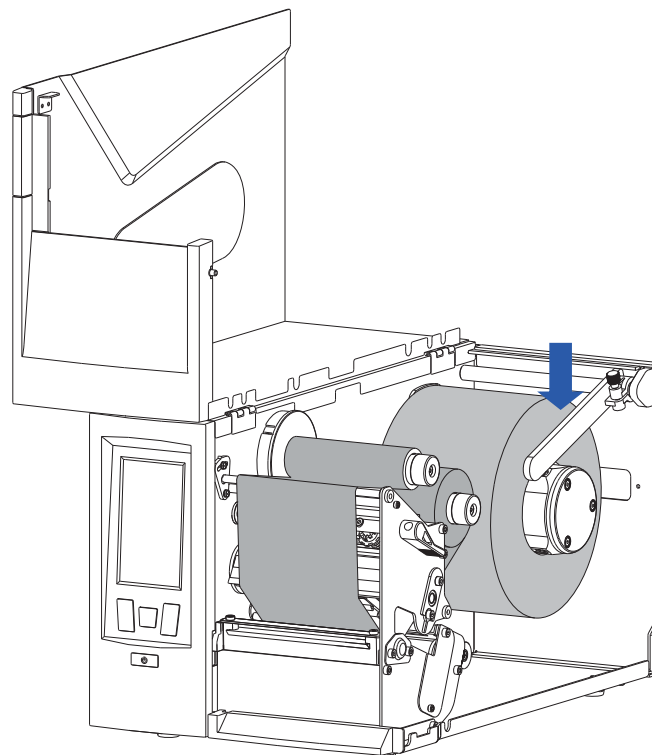

Figure 2-18 Adjust the Media Roll Guide
3. Press down and adjust the Media Roll Guide by pushing it slightly against the outside edge of the media roll. Tighten the Thumbscrew to lock the Media Roll Guide in place. As shown in Figure 2-18.